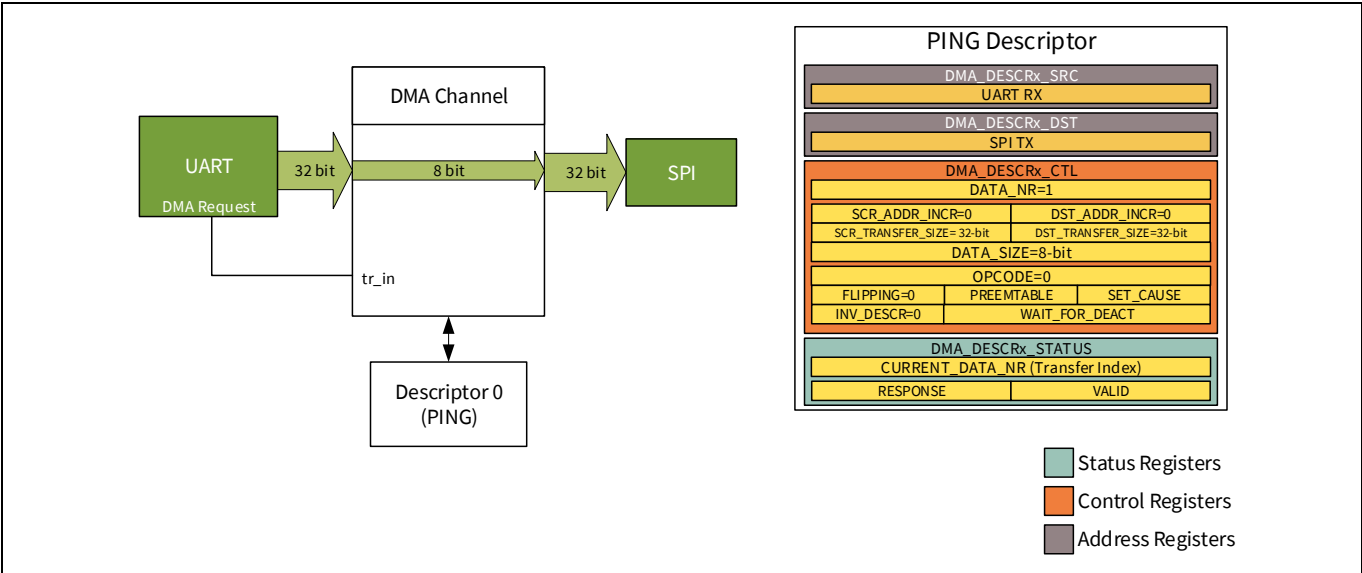

Figure 6-4. OPCODE 0: Simple DMA transfer from peripheral to peripheral
Figure 6-4 shows a typical use case of this transfer. Here a UART receive (RX) register is the source and the destination is a peripheral register such as an SPI transmit (TX) register. The trigger is from the DMA request signal of the UART. When the trigger is received, the transfer engine will load data from the UART Rx register and store the lower eight bits to the SPI TX register. Successive triggers will result in the same behavior because the descriptor will be rerun.